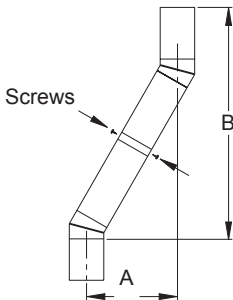

Figure 9 - Elbow Offset
if properly locked. It is not necessary to add screws to keep the chimney together (exception, see Figure 9).
1. To achieve desired offset, you may install combinations of 12", 18", 24", 36" and 48" length of double wall pipe (see offset chart and Figure 9).
2. Chimney weight above offset rests on return elbow. Straps must be securely nailed to rafters or joists (see Figure 9, details A and B).
4. All pipe connections between the offset and return must be secured with two screws on the outer pipe only (see Figure 9). Do not penetrate the inner stainless.